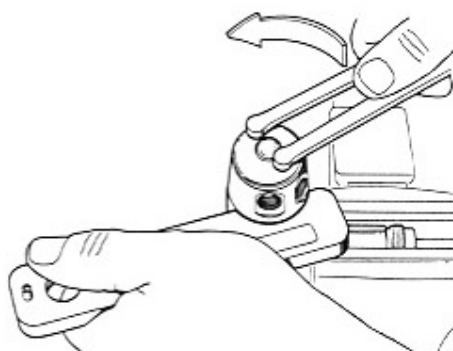
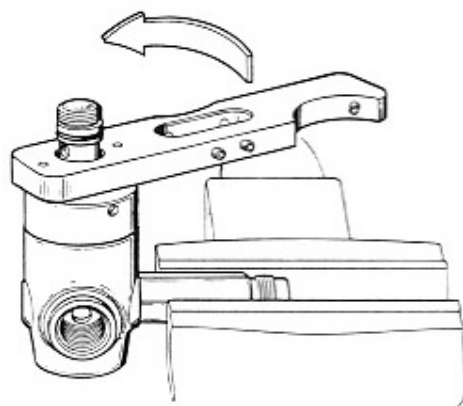
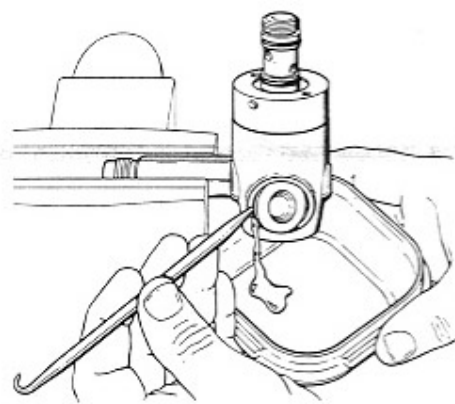

Fig. 4 - Alternate Removal Procedure
Fig. 5 - Piston Cap Removal
Fig. 6 - Secondary Diaphragm Removal
NOTE: If the piston cap(29) begins to turn with the swivel retainer, it will be necessary to hold the piston cap secure with the No. 4 Spanner while turning the swivel retainer with a separate Quad Spanner or Adjustable Face Spanner (P/N 1073-94). (See Fig. 4.)
18. While holding the first stage body secure with one hand to prevent it from turning in the vise, firmly grasp the swivel cap(31) and lift it straight off the stem of the piston cap.
20. Apply the No. 2 Spanner of the Quad Spanner Wrench over the piston cap stem, and mate it securely onto the flat surface of the piston cap (see Fig. 5). While holding the tool and first stage level and securely seated with one hand, turn the piston cap counter-clockwise to loosen no more than one full turn from the body.
21. Apply a 8mm hex key to the secondary diaphragm retainer(26) and turn counter-clockwise to loosen.
22. While holding a container below the first stage to receive the silicone fluid, loosen the diaphragm retainer further to remove, and extract the secondary diaphragm(24) with a brass O-ring tool (see Fig. 6). Discard the diaphragm and do not reuse.
25. Lift the main valve spring(16) out of the body and examine closely with a magnifier to check for any signs of pitting, rusting, or other corrosion which permeates the surface of the metal. (This would indicate that sea water has entered the ambient chamber.) If permanent corrosion is found, discard and do not attempt to reuse.
26. Remove the two swivel O-rings(30) from the stem of the piston cap and discard. Set the piston cap aside.